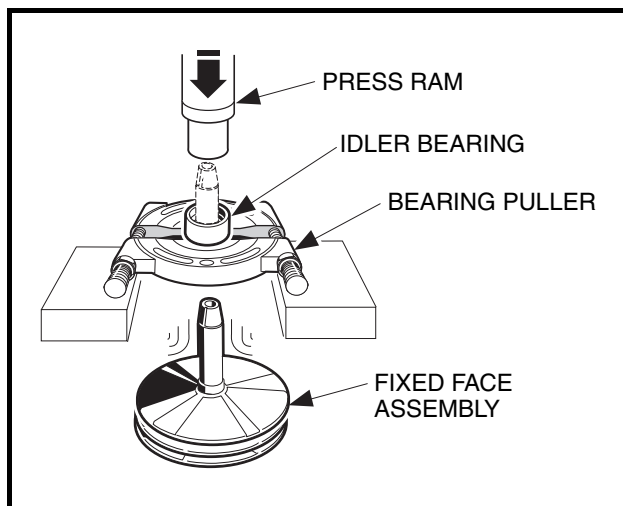

Figure 17-12 Remove Idler Bearing
8. If necessary, remove idler bearing. Use a press to remove the bearing (**Figure 17-12, Page 17-9**). See following NOTE.